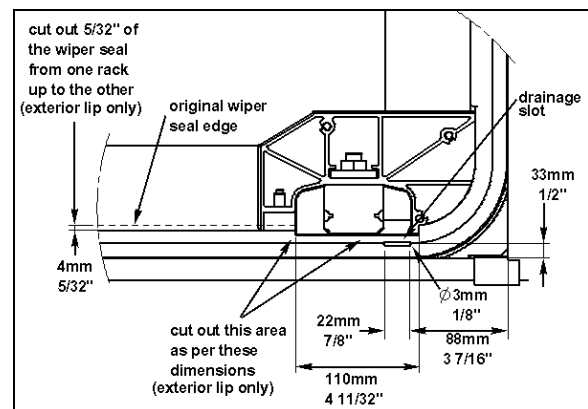

FIGURE 33: WIPER SEAL CUT-OUT
14. Cut out the exterior lip of the wiper seal as per FIGURE 33.